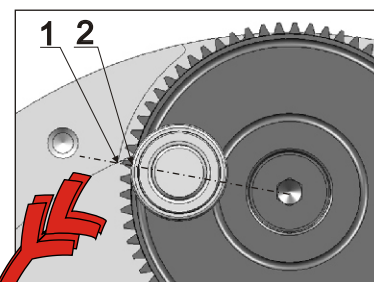

Fig.1
In order to adjust synchronous running, the notch (2) on the eccentric disk must be aligned with the corner (1) of the base plate! (see Fig. 1)